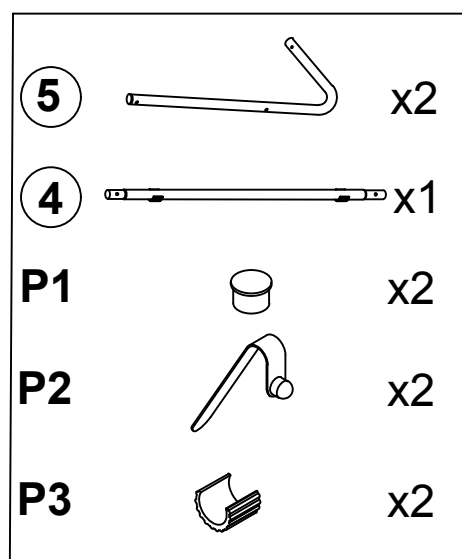

Fig 2
2. Connect Tubes(#5) and Tubes(#4) as shown FIG.2. Pay attention to press the Spring Buckle (P2)